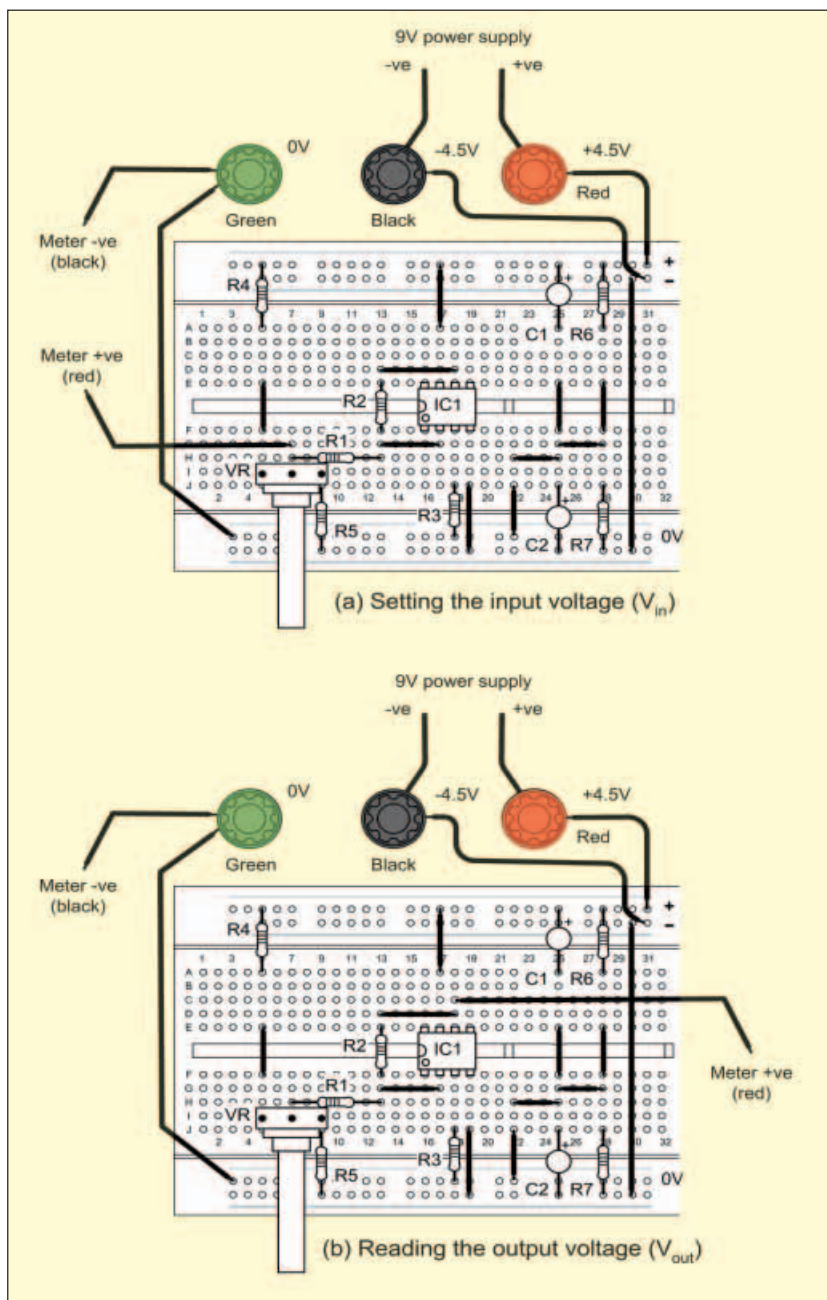

Fig.10.16. Wiring diagram for Practical Investigation 10.1
**Wiring diagram:** See Fig.10.16